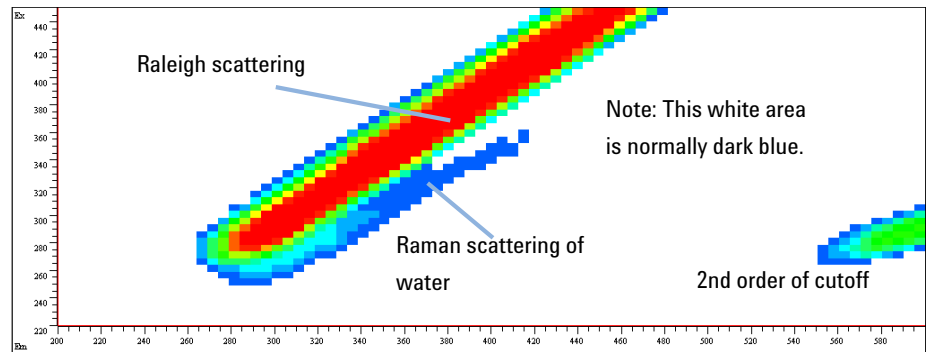

Figure 47 Fluorescence Scan of Water
- 4 Define a data file name and take a fluorescence scan. After the scan is completed, the isoabsorbance scan results appear, see Figure 47 on page 108.